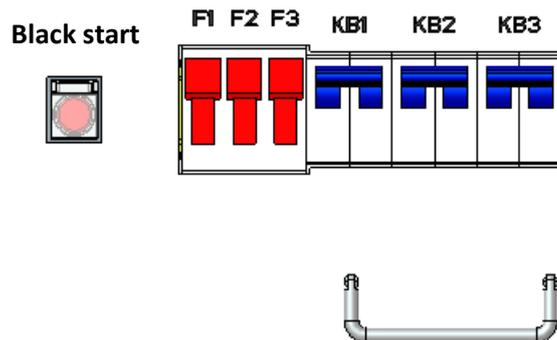

Figure 7-2 Black Start and internal MCB
(4) Open the cabinet door, close KB1, KB2 and KB3, press and hold the "Black Start" red button for 3 seconds as shown in Figure 7-2, wait for about 30 seconds, the battery voltage data will be displayed on the monitoring interface (if the monitoring is running) After the battery voltage data has been displayed, there is no need to press the "Black Start" red button). (If there is power on the AC side, that is, the diesel generator is running or the mains is input, the battery voltage data can be displayed on the monitor without pressing the "Black Start" red button).
(5) Take MPS-500KW as an example, check whether there is a red alarm signal in the upper right corner of the monitor, and it can be turned on if there is no red alarm signal.